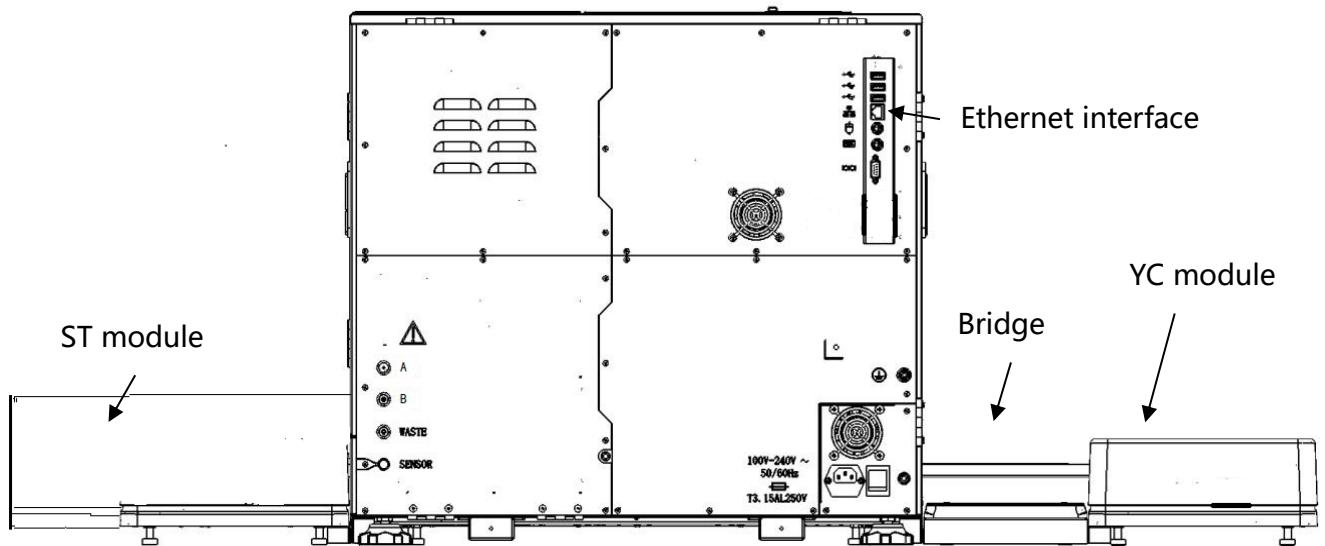

Figure 2-4
4. Connect the Ethernet interface reliably to the online instrument network port with network cables (see Figure 2-4).